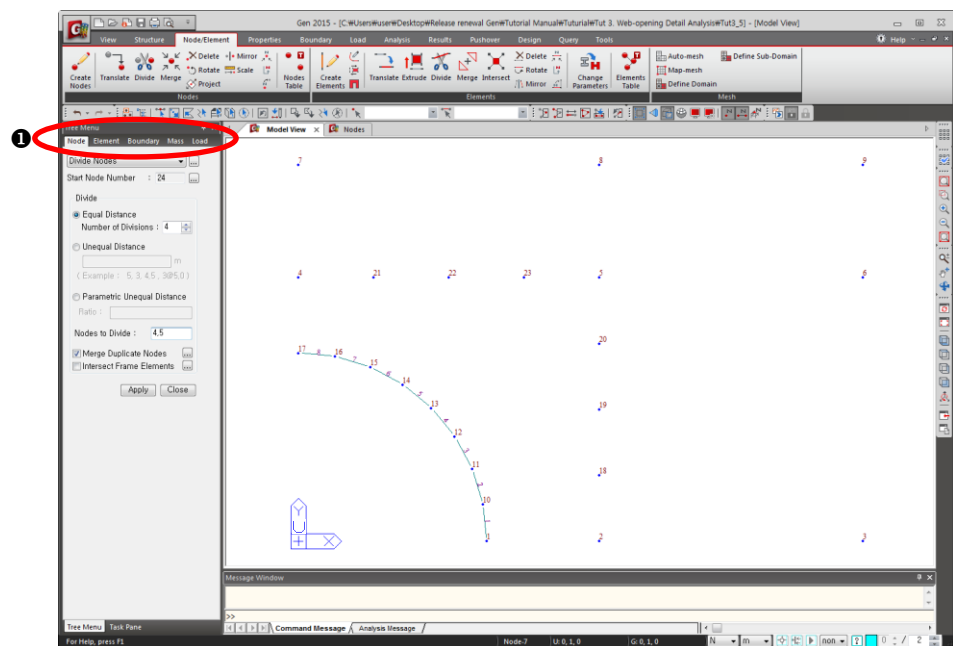

Figure 3.4 Division of nodes to create Plate Elements
2. Select **Node** in the **Model Entity** tab (Fig.3.4–①).